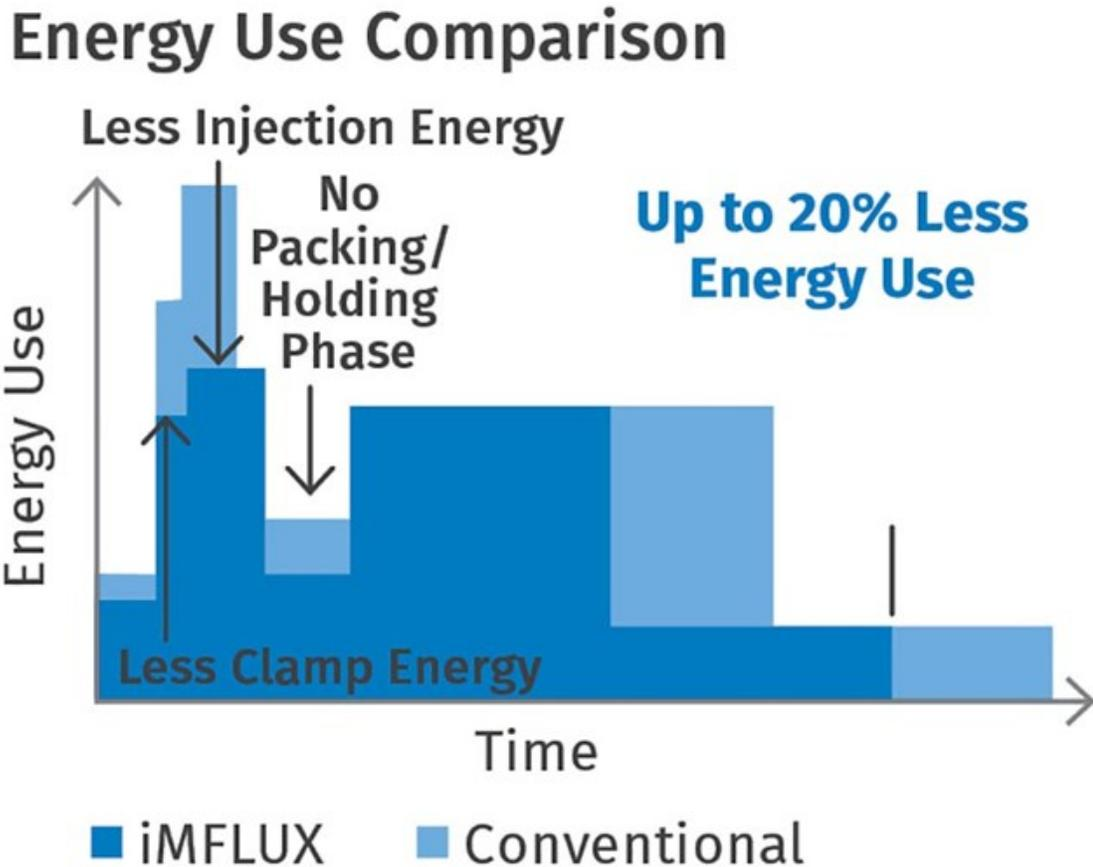

FIG 7 Faster cycles with iMFLUX also reduce energy use per part.
- *Faster cycles* spread energy losses over more parts, thus resulting in up to 20% lower energy use per part. Figure 7 shows how a shorter cycle time results in lower energy consumption relative to a conventional molding cycle.